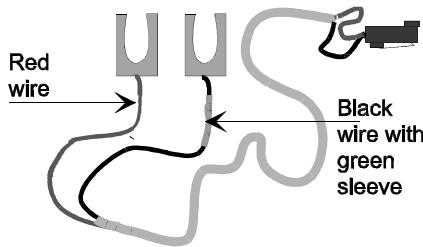

Figure 2-6. DID Power Cord
4. Locate the DID power cord supplied with the TR114 (Figure 2-6).
- Locate the DID power cord supplied with the TR114 DID board (see Figure 2-6).